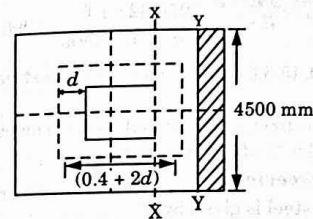

Fig. 5.3.1.
- i. Bending moment about an axis X-X pass through the face of column as shown in Fig. 5.3.1.